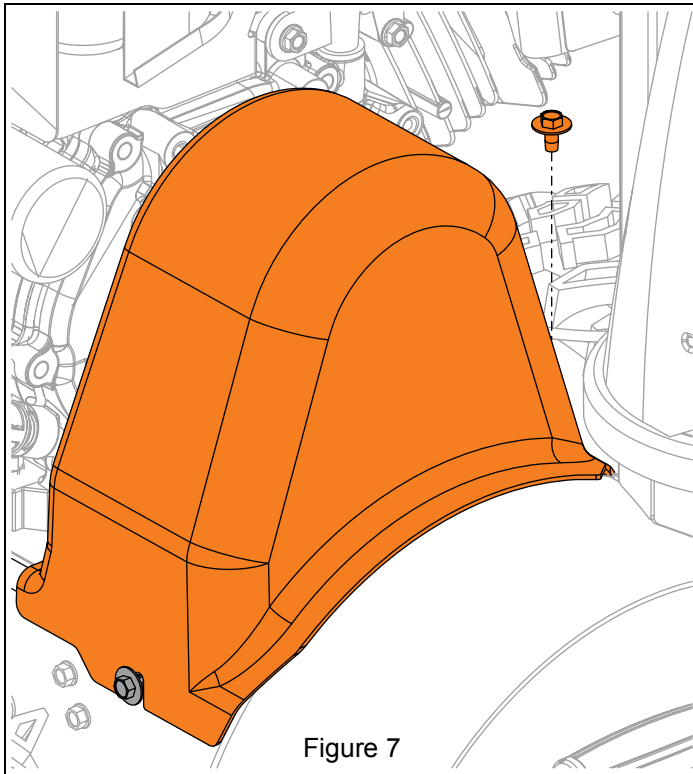
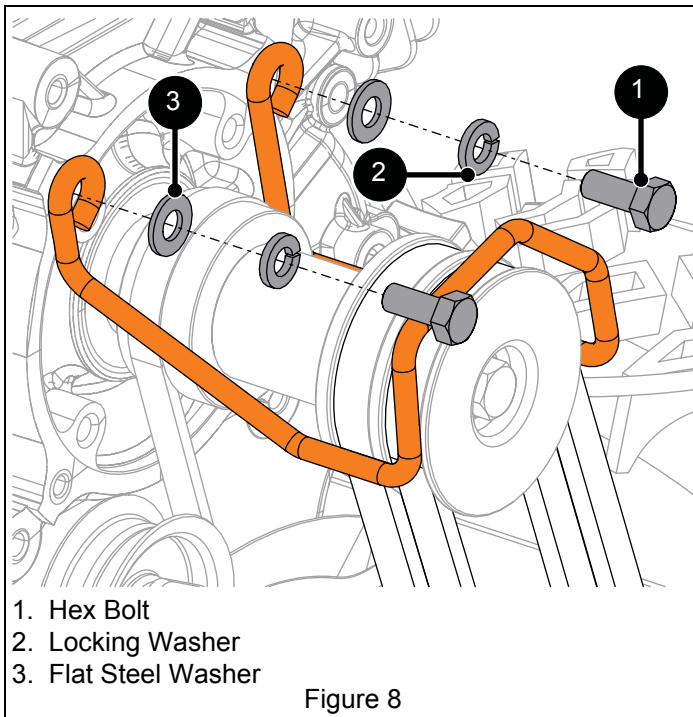

Figure 7
Figure 8
See Figure 7.
14. Remove hardware retaining belt finger to engine and remove belt finger. See Figure 8.
3. Remove belt cover and belt finger as shown in Figure 7 and Figure 8.